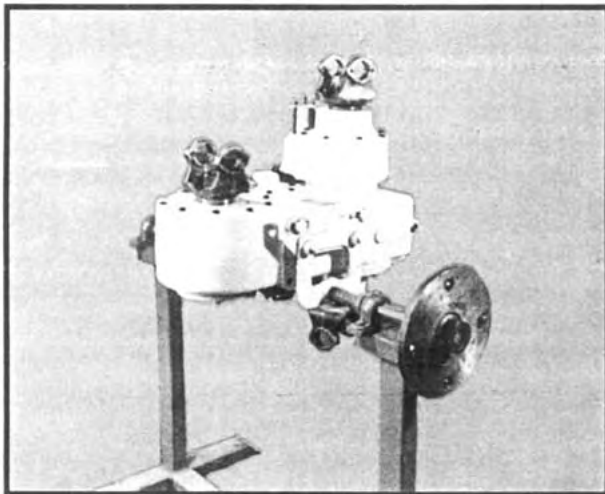

Fig 1
3. Mount the transfer case in a suitable fixture. The fixture should be such that the transfer case can be rotated so that either the front or the rear of the case is facing upward. A transfer case mounted in a typical fixture is shown in Figure 1.